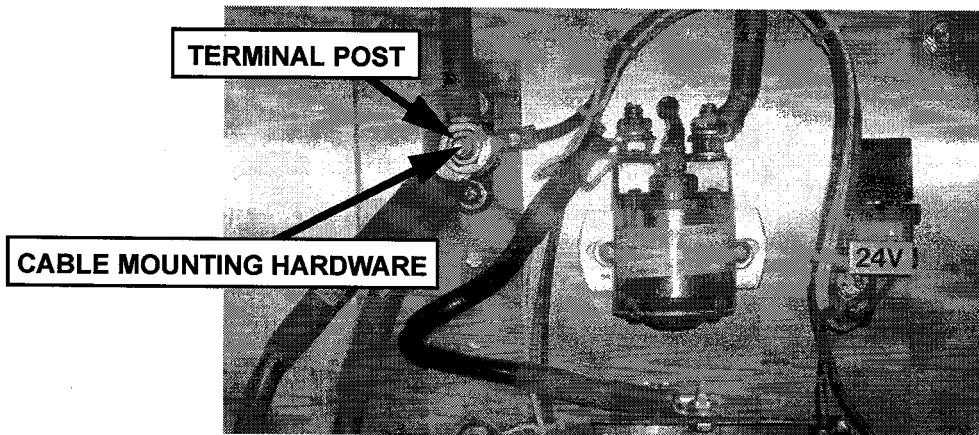

Figure 1-10
1. Install inline fuse harness **081009517** to the terminal post. See **Figure 1-10**
2. Secure cable mounting hardware. Torque to 125 in-lbs. See **Figure 1-10**